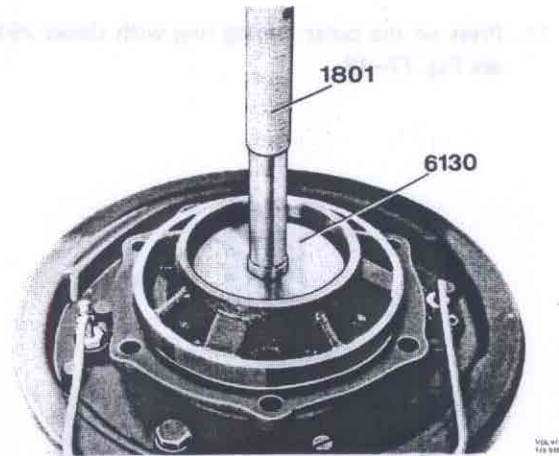
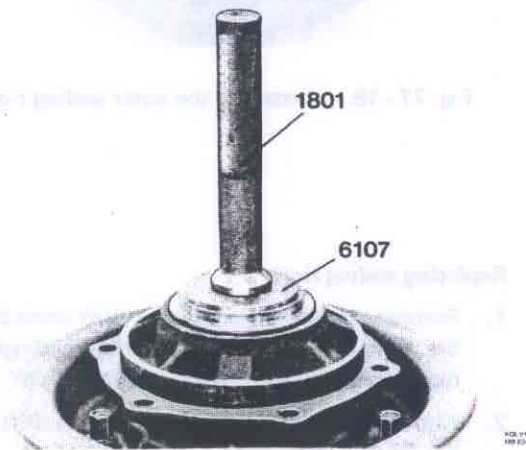

Fig. 77-15. Installing the inner sealing ring
Fig. 77-16. Installing the inner bearing outer ring
9. Tap in the inner sealing ring with drift 6130, see Fig. 77-15. The sealing ring should be 2 mm (5/64") under the outer ring. Press in the inner bearing outer ring with drift 6107 and standard handle 1801, see Fig. 77-16.
- Tap in the inner sealing ring with drift 6130, Fig. 77-15. The sealing ring should lie 2 mm (5/64") below the outer ring. Press in the inner bearing outer ring with drift 6107 and standard handle 1801, Fig. 77-16.